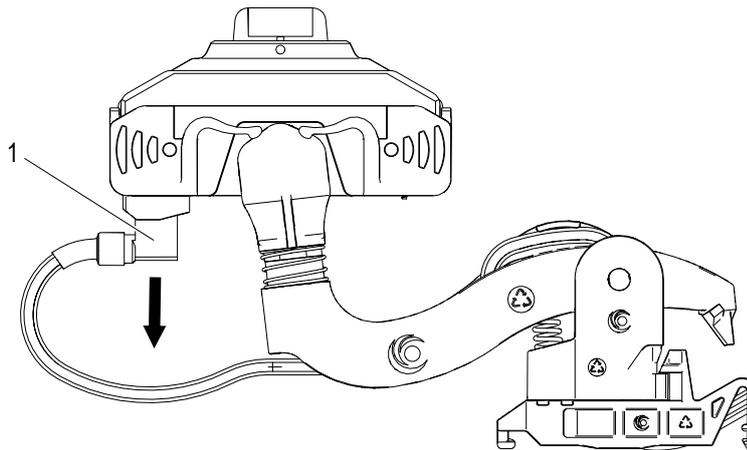

Fig. 170: Pull off angled blade receptacle
→ The collector housing must audibly click on both sides (see Fig. 170)
→ Pull off the angled blade receptacle (1) of the PE cable (see Fig. 170).